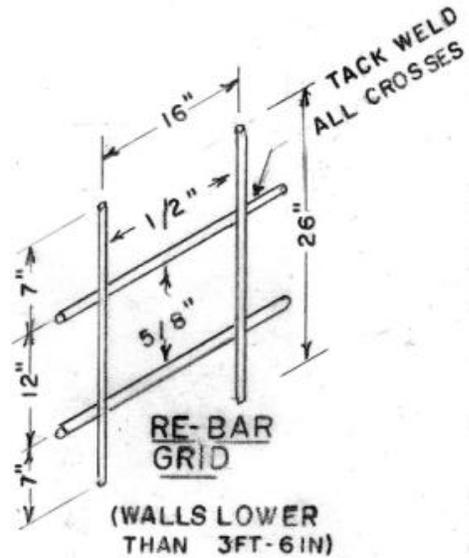

Figure 5 - Truncated Re-Bar Grid for Short Walls
**(Note: If your tilting wall is less than 3½' in height, see Figure 5 - Truncated Re-Bar Grid for Short Walls, page 21)**
**Note: If your wall is less than 3½' in height, fabricate the truncated re-bar grid. (See Figure 5 - Truncated Re-Bar Grid for Short Walls, page 21, and Figure 18 - Engineering Drawing No. 4, page 45.)**